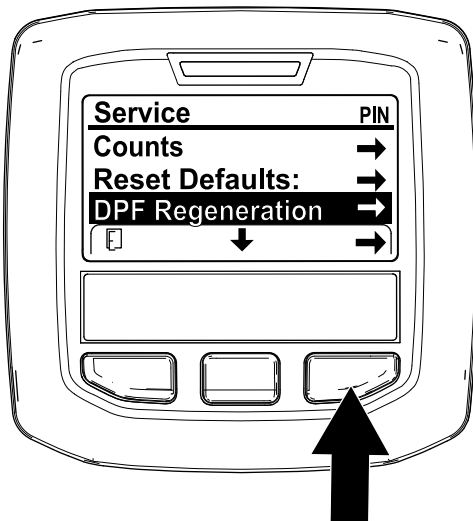

Figure 42
1. Access the Service menu, press the center button to scroll down to the DPF REGENERATION option (Figure 42).
2. Press the right button to select the DPF Regeneration entry (Figure 42).